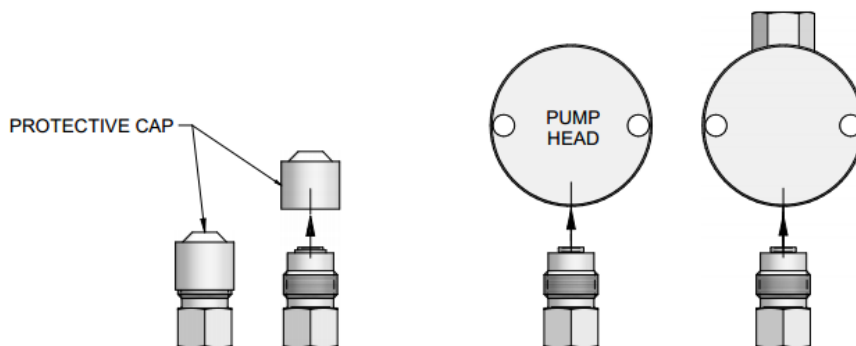

Figure 4-3, New Check Valves from package and proper orientation
5. If this procedure does not return the pump to proper performance, the check valves should be replaced. An example of new check valves from their package can be seen in Figure 4-3 below.
3. Hold one new check valve assembly as shown in *Figure 4-3* and unscrew the protective cap. With the check valve assembly maintained in the above position, thread it into the proper pump head port until it is snug. Install the other check valve assembly similarly.